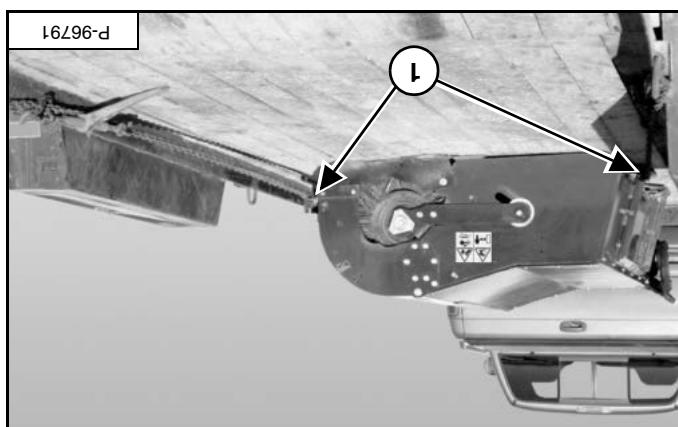
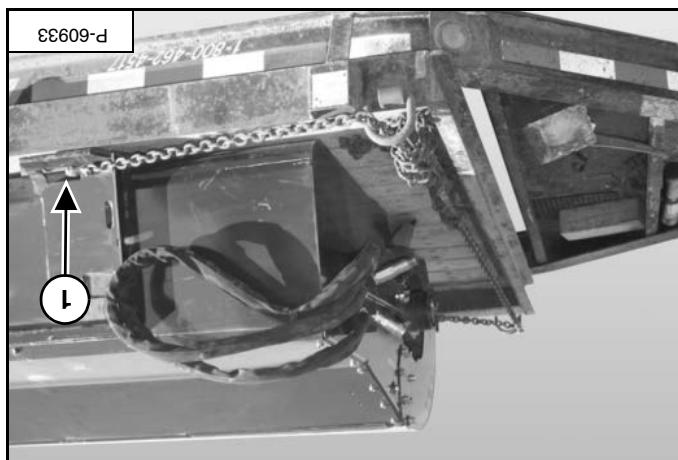
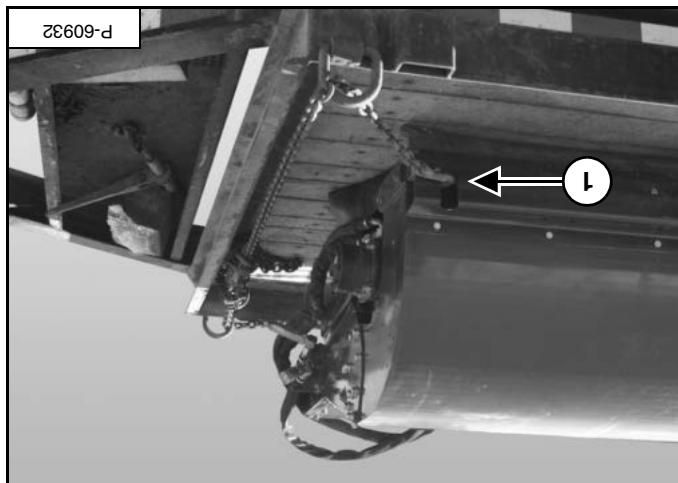

Figure 99
Figure 98
Figure 97
Fasten the chains to the sweeper (item 1) [Figure 97], [Figure 98] and [Figure 99] and fasten each end of the chain to the transport vehicle.